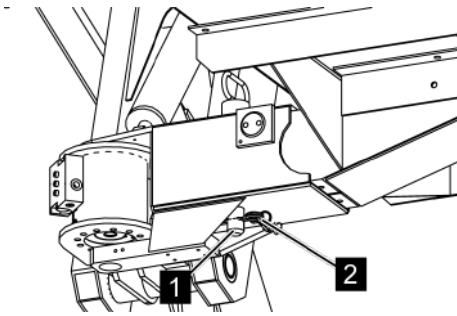

Fig. 112: Inserting the spring cotter pin
8. ➔ *Secure the fastening bolts (Fig. 112/1) with the the spring cotter pin (Fig. 112/2).*